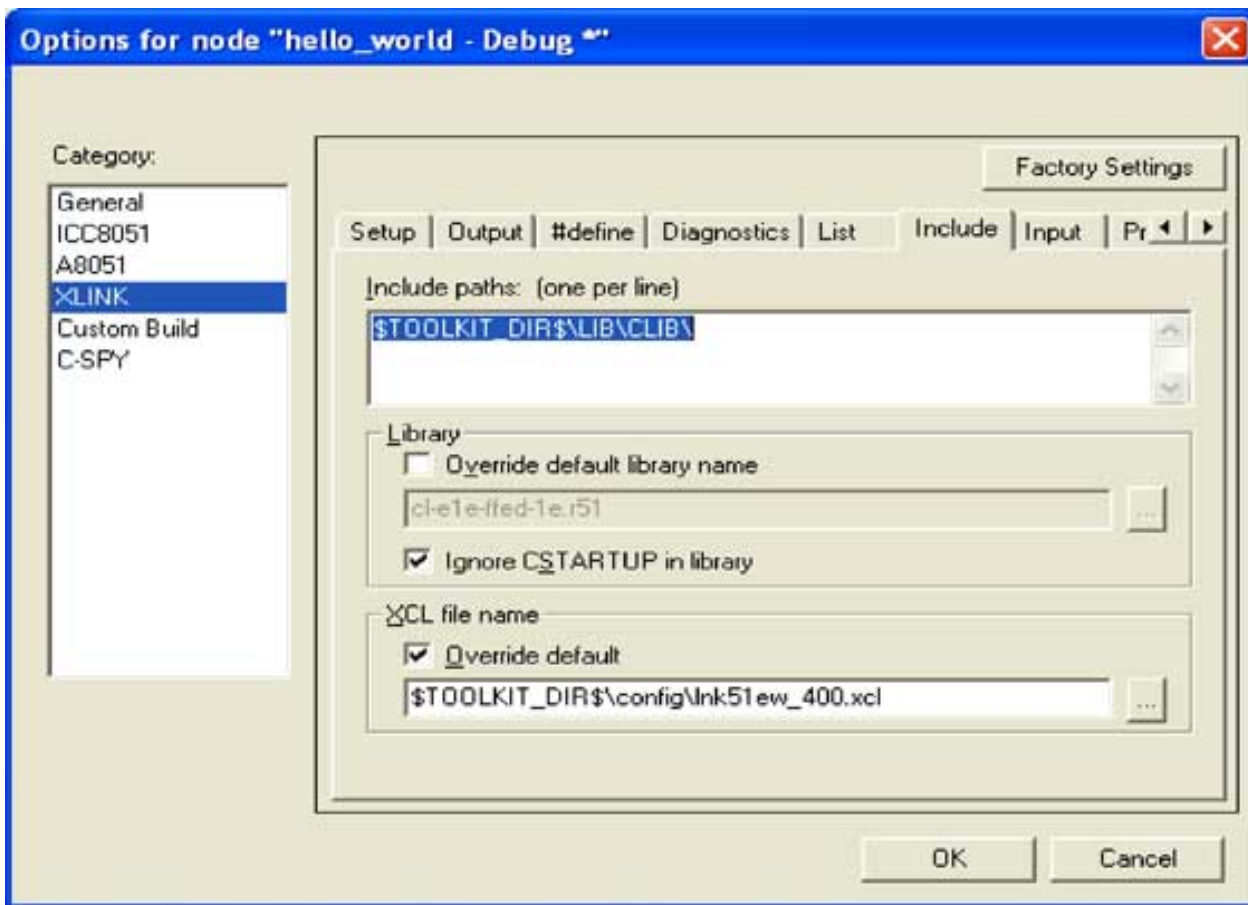

Figure 3. Selecting the XLINK Include options for a new IAR 8051 project.
- Click **include** tab. Refer to **Figure 3**.